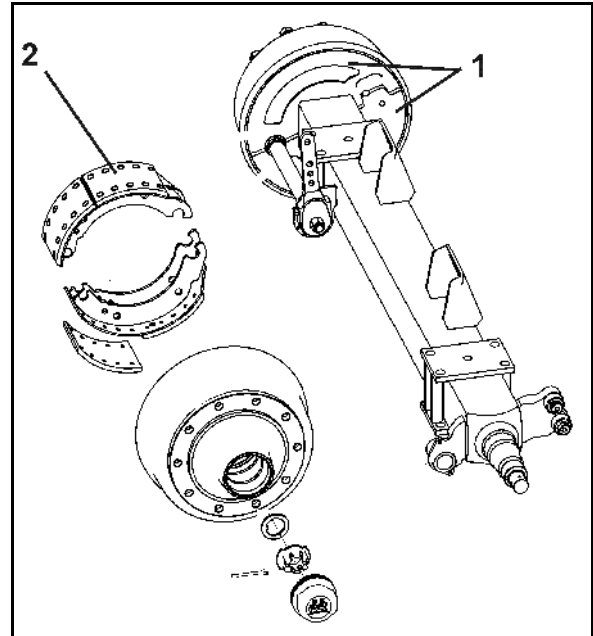

Fig. 34
1. Use the ring to keep the drain valve (Fig. 34/1) pulled sideways until no more water flows out of the air reservoir.